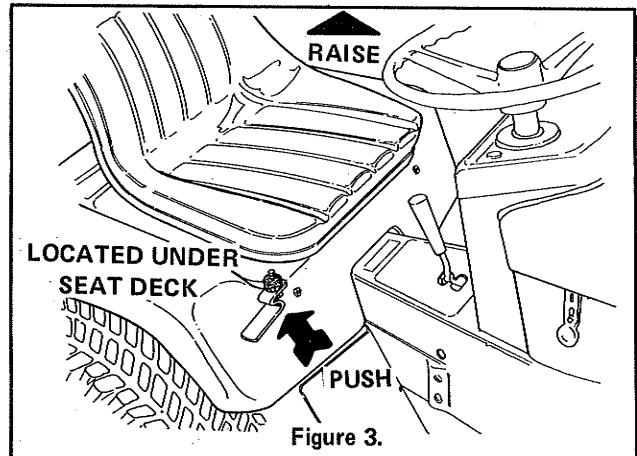

Figure 3.
2. See Figure 3. Raise the seat deck by pushing up on the seat latches located under the front edge of the seat deck. There are two latches, one on each side of the seat deck.